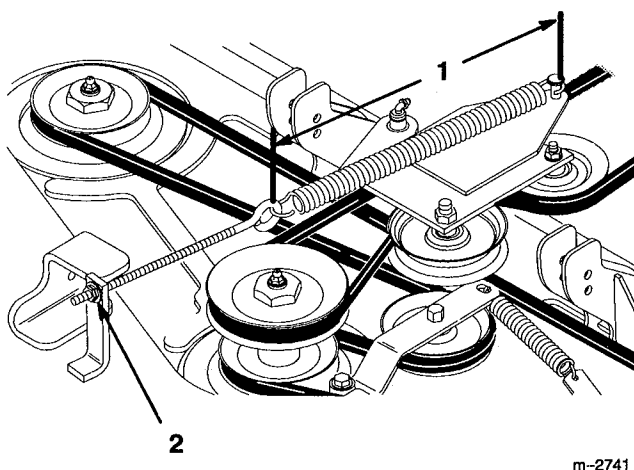

Figure 27
5. Tighten the jam nuts on the eyebolt until the spring is stretched to a length of 16-1/2" (41.9 cm) (Fig 27).